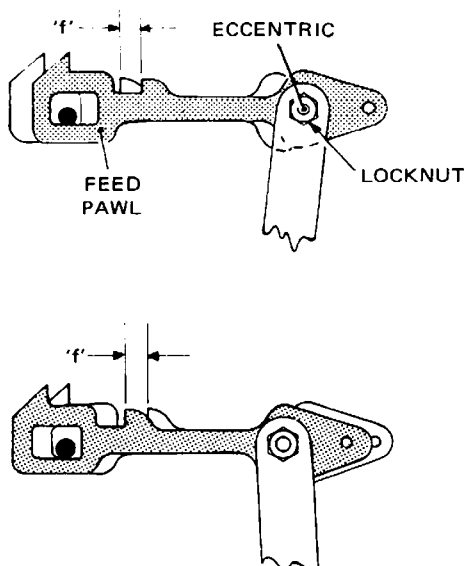

Fig. 4.5 FEED PAWLS (FRONT VIEW)
- 6.1 If a 0.118 inch slip gauge is not available, note the maximum overlap of one feed pawl over the other (dimension 'f' of Fig. 4.5). Check that the two overlaps for both half cycles of the main camshaft are equal.
- 6.3 If a 0.118 inch slip gauge is available, set the feed unit camshaft in either rest position, lift the lower cam follower and insert the slip gauge under the follower as shown in Fig. 4.5. Check that the feed pawls are exactly in line at the teeth.